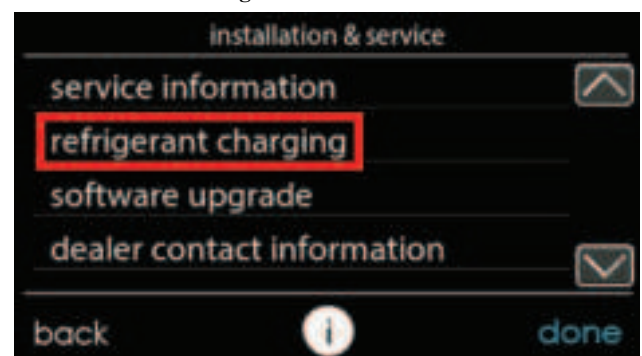
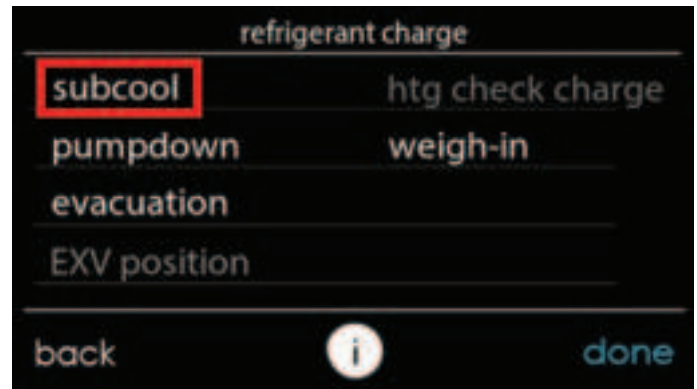

Fig. 12 – Select Refrigerant Charging
Fig. 13 – Select Refrigerant Subcooling
4. Navigate to the service area by pressing MENU from main screen (see Fig. 11). Scroll down to service icon and hold until icon turns green. Once in the "Installation and Service" menu, select "Refrigerant Charging" (see Fig. 12).
5. If the outdoor ambient temperature is between 65°F and 105°F and the indoor temperature is between 65°F and 80°F then select "subcool" (See Fig. 13).
2. In the "installation and service" menu of the UI (see Fig. 11), go to "refrigerant charging" and then "pump down" (see Fig. 11 & Fig. 12).
2. In the "installation and service" menu of the UI (see Fig. 11), go to "refrigerant charging" and then "evacuation" (see Fig. 12) and Fig. 13).